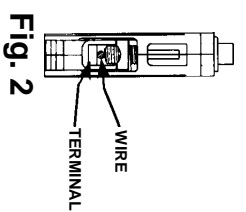

Fig. 2
3. Mount terminal assembly to load side of circuit breaker as shown in Fig. 2.